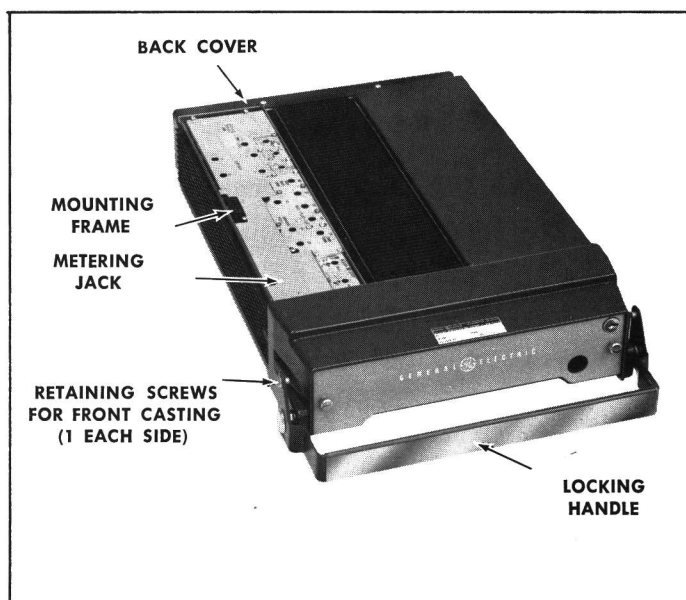

Figure 2 - Removing Top Cover
| Figure 2 | Removing Top Cover .....    | 4 |
1. Loosen the two Phillips-head retaining screws in from casting (see Figure 2), and pull casting away from system frame.